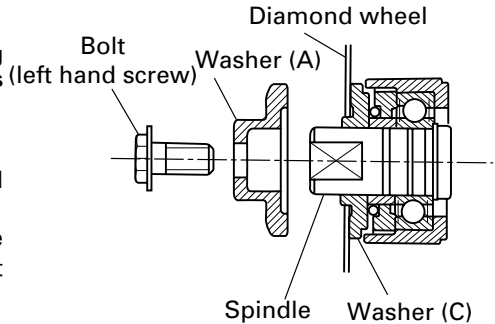

Fig. 3
- (1) Thoroughly remove dust accumulated on the spindle and washers.
- (2) As shown in Fig. 3, the concave portions of washers (A) and (C) must be on the diamond wheel side.
- (3) Thoroughly clamp the bolt.